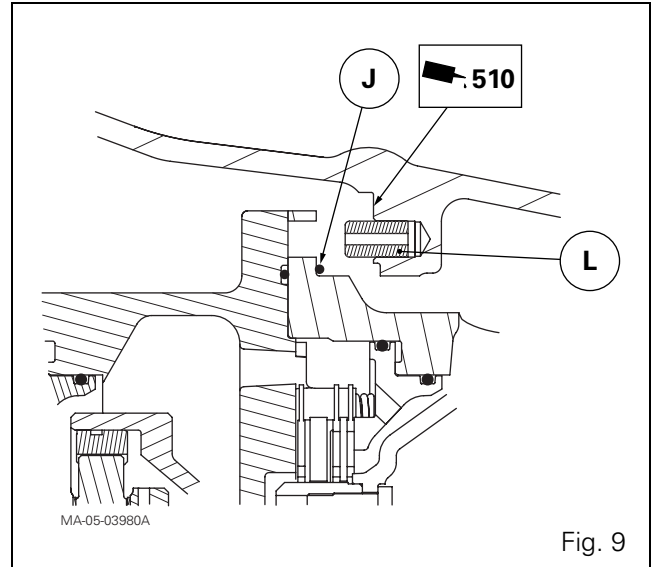

Fig. 9
28. Clean the mating faces (Fig. 9) then apply Loctite 510 or equivalent sealing product.
29. Refit the "O" ring (J Fig. 9). Smear it with grease and fit it on the Powershift module.
31. Lower the sling by aligning the centring pin (L) with the port (Fig. 9).